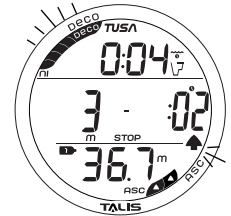

Fig. 63 - DECO ENTRY
**Deco Entry**, information includes (Fig. 63):